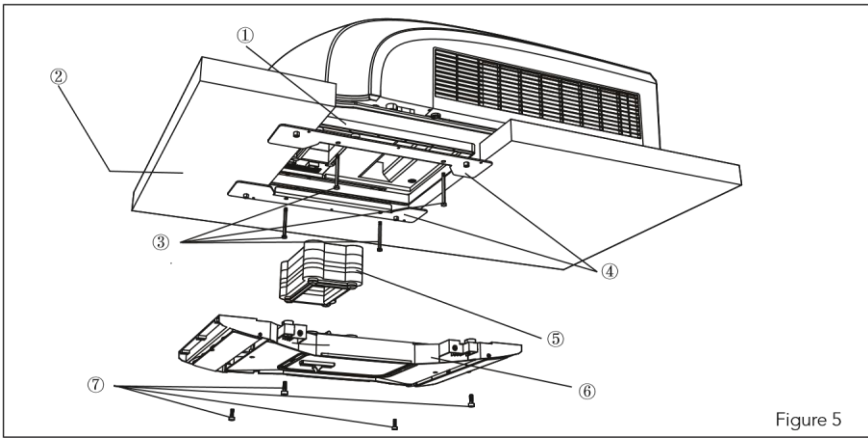

Figure 5
6. Install the foam assembly on the air duct assembly. Use 4 screw bolts to fix the air duct assembly onto the mounting plate. After connecting the outdoor unit with indoor unit, check whether the foam assembly has come loose (See fig.5).